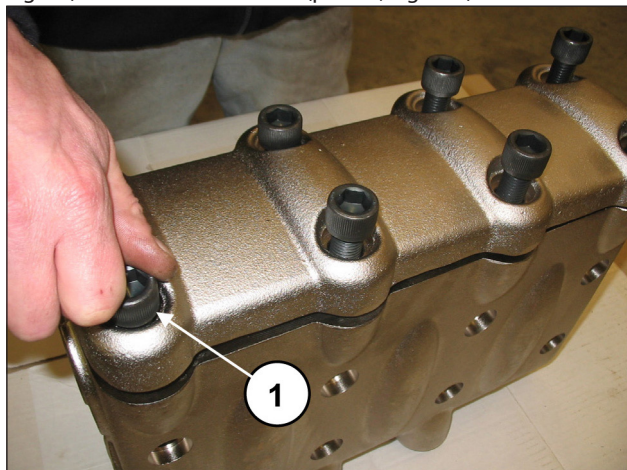
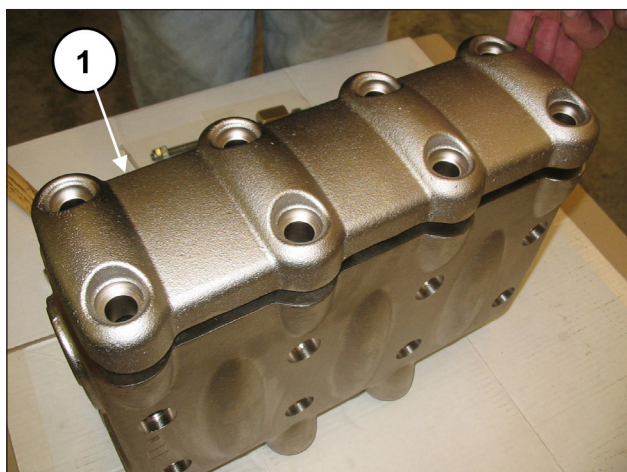

Fig. 99
Fig. 100
Unscrew the 8 M16x55 screws of the valves cover (pos. ①, Fig. 99) and remove the cover (pos. ①, Fig. 100).